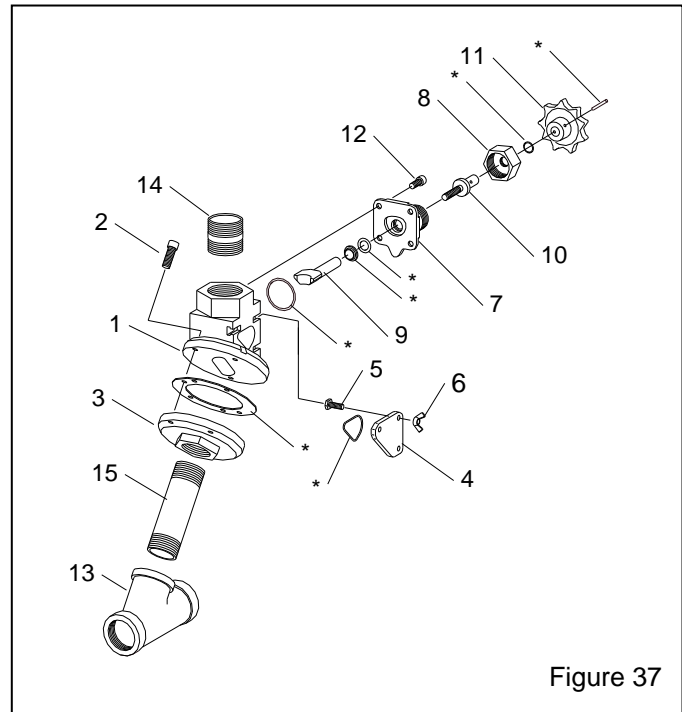

Figure 37
**8.4 MQV Manual Quantum Abrasive Metering Valve, Figure 37**